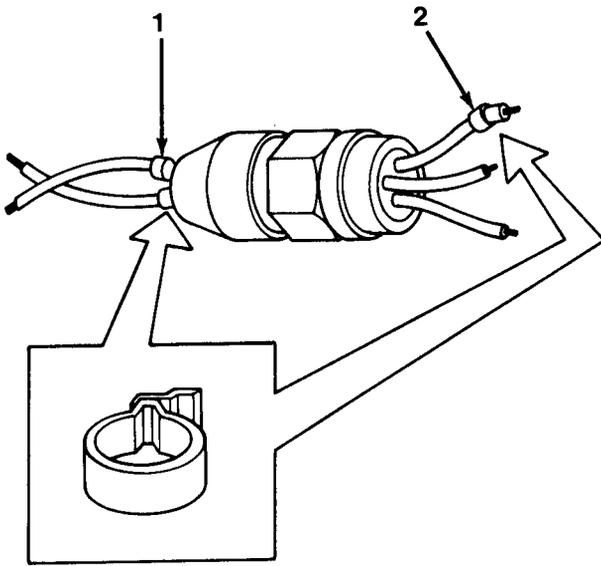
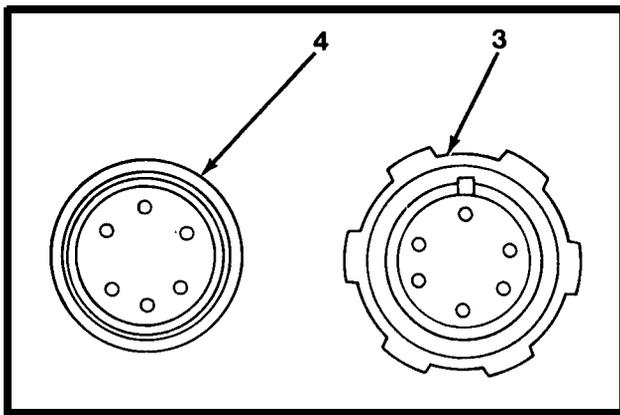

Figure 10-1
Figure 10-2
1. Cable identifiers (1, Figure 10-1) are aluminum tags attached to cables. These tags are embossed with cable identification number.
2. Wire identifiers (2) are embossed with same individual wire number. Wire identifier numbers are shown on wiring diagram.
4. All pins (male connectors) and sockets (female connectors) in receptacles and plugs are identified by alphabetical code. Coded identification starts at the connector key (3) or groove (4, Figure 10-2). Male connectors identifying letters run clockwise and female connectors identifying letters run counter-clockwise.